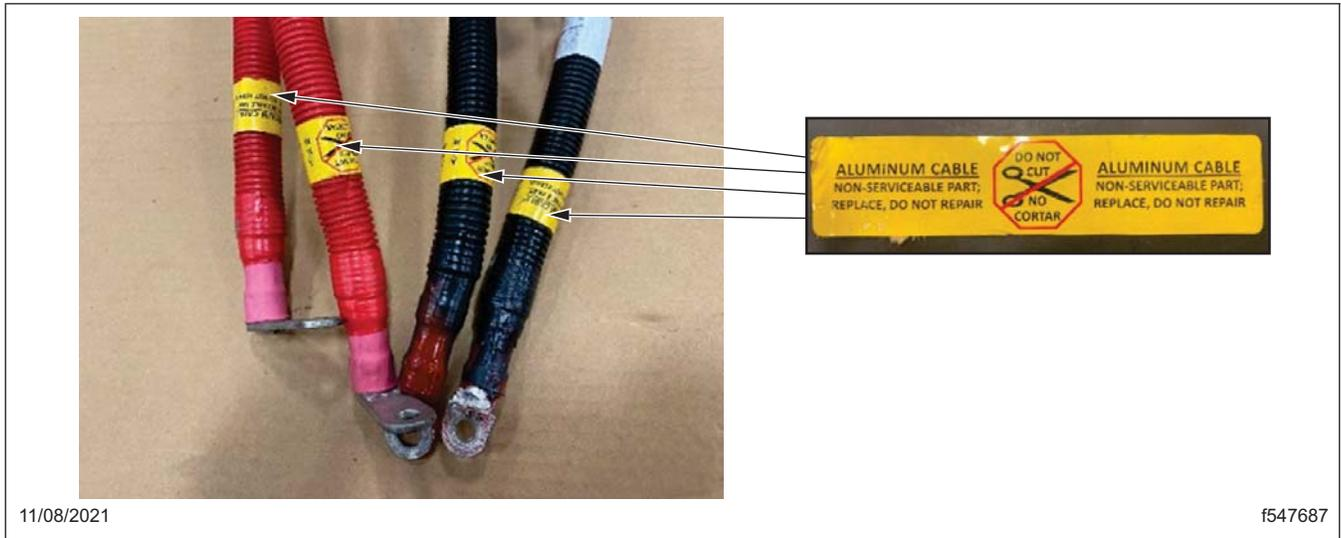

Fig. 29, Powernet Battery Cables Made of Aluminum
- The aluminum 4/0 cables are attached with a yellow label on each end indicating they are made of aluminum. See Fig. 29.